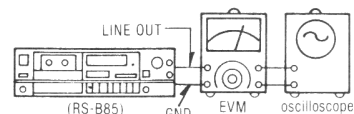

Fig. 4
1. Make connections as shown in fig. 4.
- Test equipment connection is shown in fig. 4.